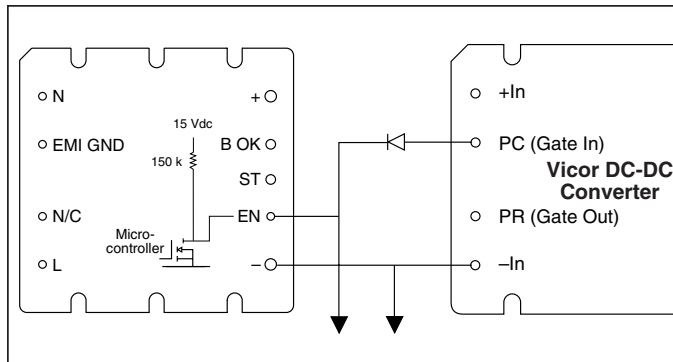

Figure 10 — Enable (EN) function
Enable (EN) Pin. (see Fig. 10) The Enable pin must be connected to the PC or Gate-In pin of all converter modules to disable the converters during power up. Otherwise, the converters would attempt to start while the hold-up capacitors were being charged through an unbypassed current limiting thermistor, preventing the bus voltage from reaching the thermistor bypass threshold, thus disabling the power supply. The Enable output (the drain of an N channel MOSFET) is internally pulled up to 15 V through a 150 k Ω resistor.